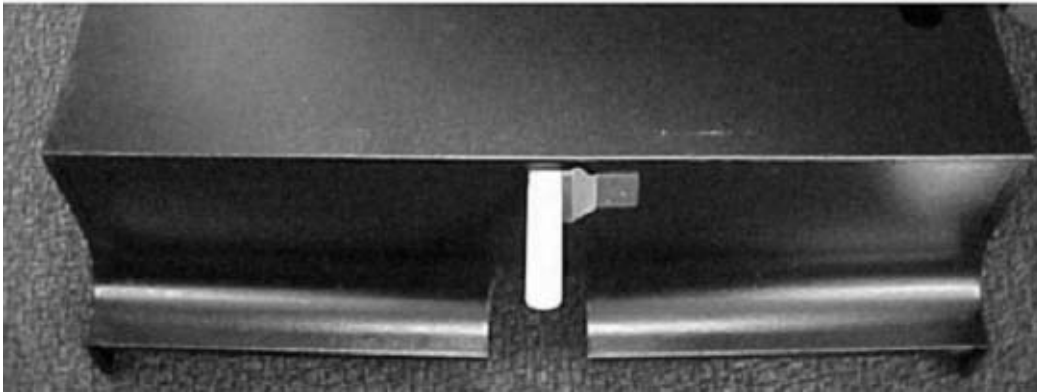

Figure 4.
4. Attach small sheetmetal bracket that mounts the white inner nozzle using 3/16" pop-rivets, see Figure 4. **Make Sure** to install white inner nozzle on bracket before installing.